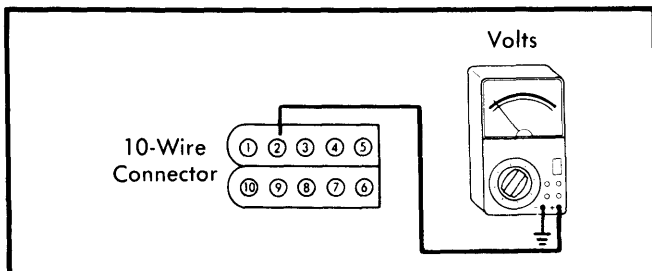

Fig. 5 Voltmeter Hookup for Checking Terminal 2 Voltage
8) If voltage was not at least 5 volts, turn ignition switch "OFF". Disconnect 10-wire connector from computer. Turn ignition switch back to "RUN" position. Connect positive voltmeter lead to terminal 2 of 10-wire connector and negative lead to ground. See Fig. 5. Voltage reading should again be within 1 volt of battery voltage. If not correct, check wiring between terminal 2 and ignition switch for opens, shorts or poor connections.